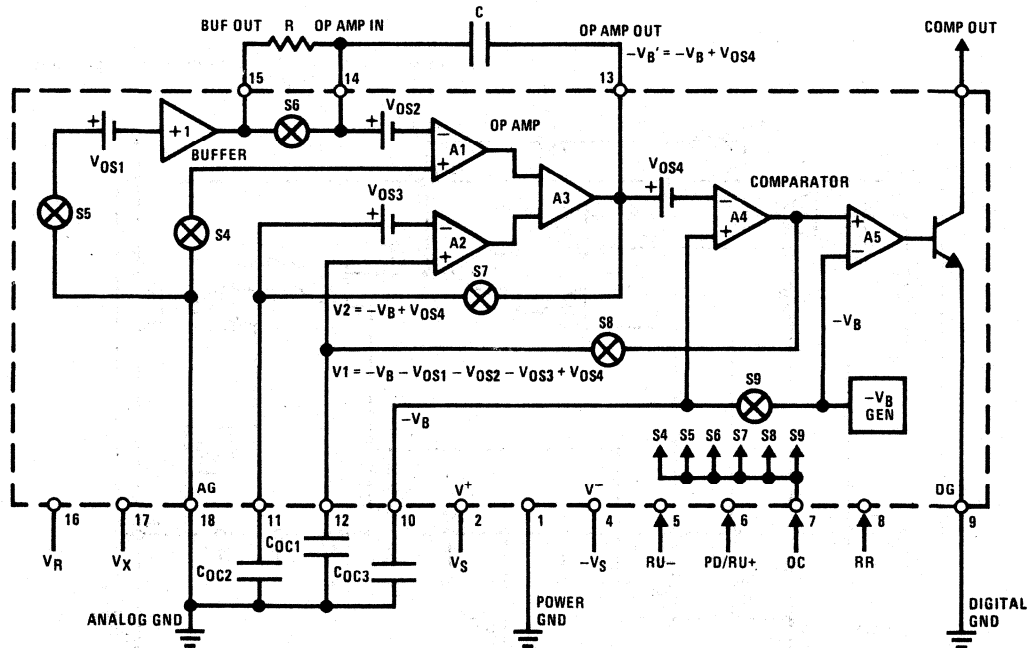

FIGURE 1. Offset Correction Circuit
### Offset Correction Description (Figure 1)
**Initialization** (Figure 1)